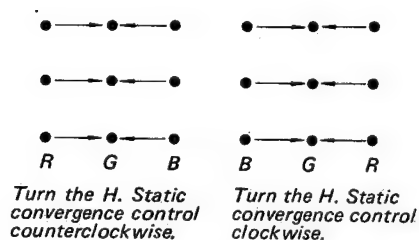

Fig. 3-5.
1. Adjust the horizontal static convergence control (H-STAT 625L) to converge the red dots and the blue dots with the green dots at the centre of the screen. Fig. 3-5.